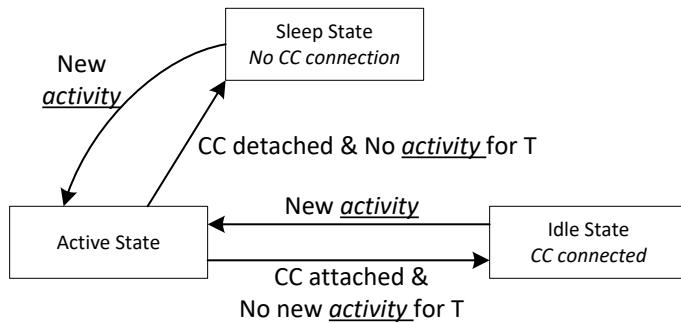

Figure 9-32. Flow Diagram for Power States
(1) See I²C Address Setting to see the exact meaning of I²C Address Index.(2) See Pin Strapping to Configure Default Behavior for how to configure a given ADCINx decoded value.
The TPS25750 can operate in one of three different power states: Active, Idle, or Sleep. The Modern Standby mode is a special case of the Idle mode. The functionality available in each state is summarized in Table 9-6. The device will automatically transition between the three power states based on the circuits that are active and required. See Figure 9-32. In the Sleep state, the TPS25750 will detect a Type-C connection. Transitioning between the Active mode to Idle mode requires a period of time (T) without any of the following activity: